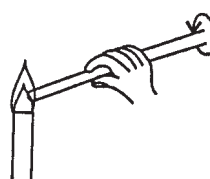

Fig. 2.4 ROUNDING OFF EDGES
- (b) Place the ends in the flame of Bunsen burner, keeping the tube rotating as shown in Fig. 2.4.